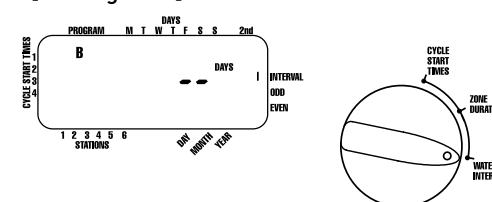

FIGURE 7: LCD Display with Watering Interval
- Turn the rotary dial to **WATERING INTERVAL**. The cursor will blink to the left of the word **INTERVAL** [See Figure 7].